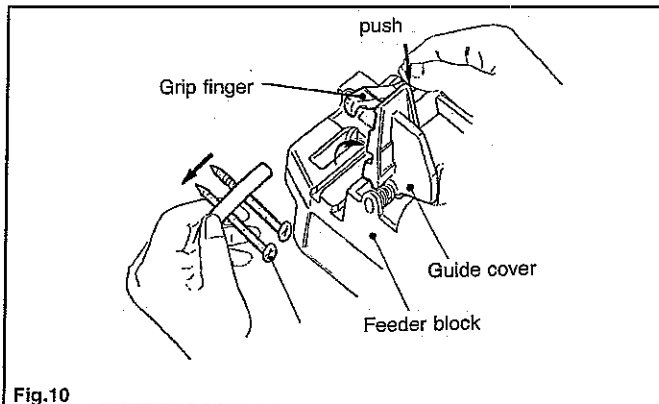

Fig.10
13. Removing the VISROPE screws (Fig. 10)
Pull the **VISROPE** in the direction of arrow and remove the screws (Fig. 10).